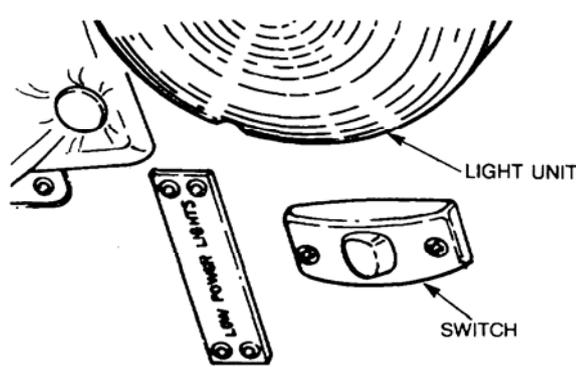

Figure 26 Low Power Light Switch Replacement
- b. Remove the two screws securing the switch to the ceiling (refer Figure 26).